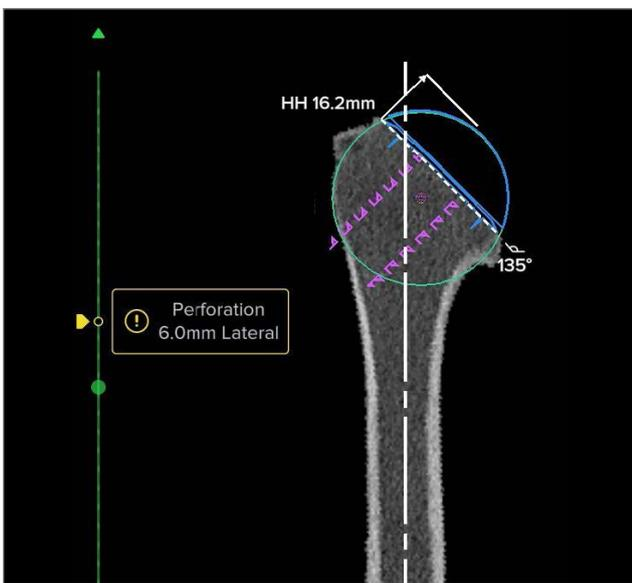

Figure 60. Eclipse™ cage screw perforation warning
- In the event that the user selects an implant or positions the implant so that it that violates the humeral cortex a perforation warning will appear in the left pane of the “Humeral Viewer” page. A yellow flag will appear along the green slider bar to the left of the 2D image referencing the CT slice that shows the perforation (Figures 60 and 62).